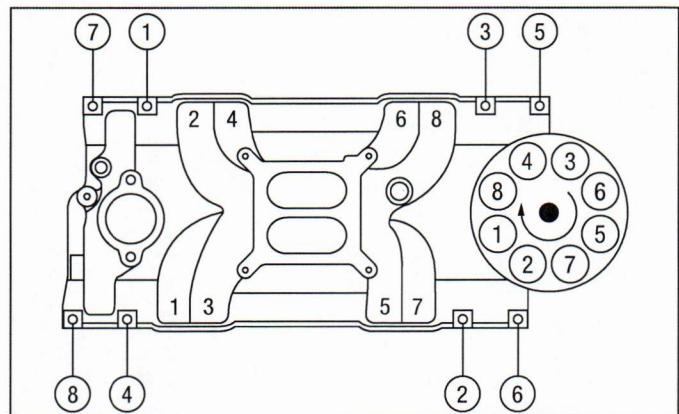

**Figure 2 - Pre-1995 Manifold Bolt Torque Sequence**
- 5a. Install the intake manifold and hold-down bolts. On applications with pre-1995 cylinder heads, apply a small amount of silicone to the threads of the eight inner bolts (1,2,3,4,5,7,9 & 11 in **Figure 2**) to prevent oil weepage, as generally these are not blind holes in the cylinder head. Torque all of the manifold bolts in two steps by the sequence shown in **Figure 2** to 25 ft/lbs.